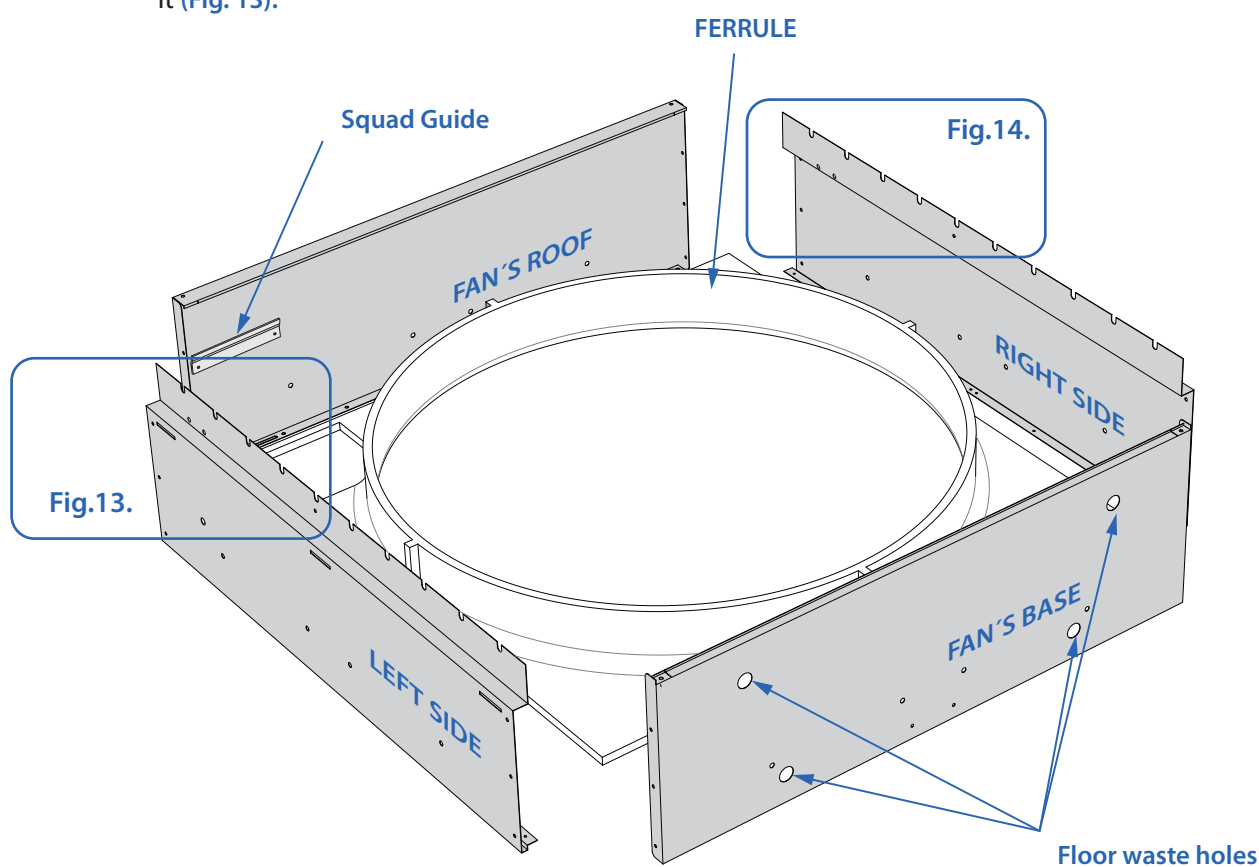

Fig. 12 Placing the floor, sides and roof in relationship with the ferrule.
Pay attention to the placing of the roof and the floor as the situation of the ferrule and the sides, since all of them have a determined position (Fig. 12).
- The roof must be assembled to the ferrule part where we will later put the motor. Pay attention to the hole where we will assemble the motor there is in the ferrule (Fig 12). We will identify the roof thanks to the fact of the guide support having been already assembled in our facilities.
- Do not get confused about the roof and the floor. In order to identify them, you must fix them in the waste holes we have made on the floor (Fig 12).